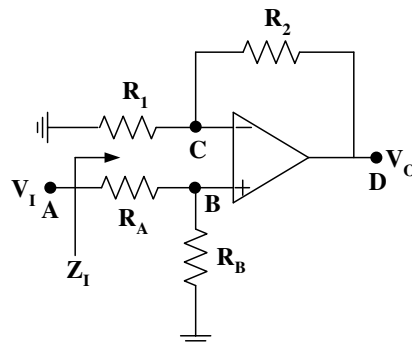

Figure 3. A non inverting amplifier circuit using 741 Op Amp.
2. DESIGN OF AMPLIFIER CIRCUIT: Design the non inverting amplifier circuit as shown in Figure 3 (determine the values of the resistors) so that the closed loop gain is $\frac{V_o}{V_i} = \frac{R_2}{R_1} = 5$. The available set of resistance that you can use is 100Ω , $1K\Omega$, $2.2K\Omega$, $3.3K\Omega$, $5.6K\Omega$, and $10K\Omega$. For design safety, take R_2 as high as possible. For proper operation of the amplifier circuit, assume that $R_A = R_1$ and $R_B = R_2$. In your design, if exact value of resistance is not available, choose the nearest one. With your design, set V_i
6. Set up the circuit as shown in Figure 3 using the resistances from your prelab design. Use a +15V DC power supply to terminal 7 and -15V DC power supply to terminal 4 of the Op Amp from the digital trainer board.